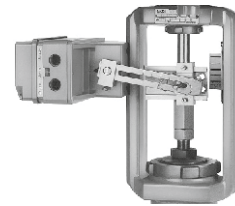

Fig. 10 · Attachment acc. to IEC 60534 (NAMUR)
- Attachment to actuators according to IEC 60534-6 (Fig. 10)